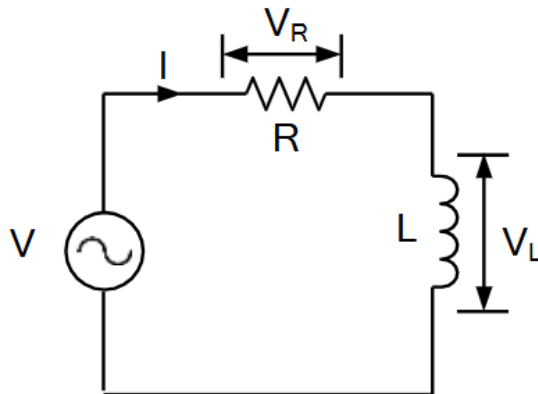

Figure 8
- 1- Build, and connect the circuit shown in Figure 8 using a $1\text{k}\Omega$ resistor and a 100 uH inductor.